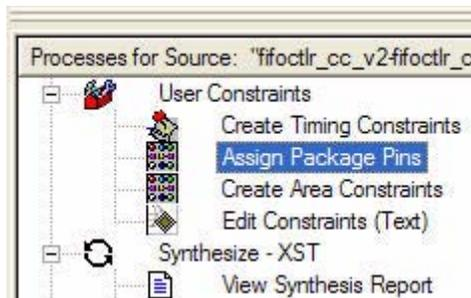

Figure 1: Launching the PACE tool from ISE
1. Launch the PACE tool from ISE or command line (Figure 1).